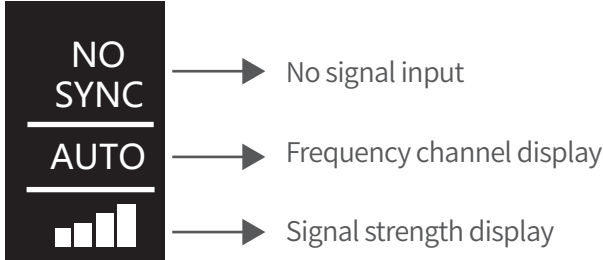
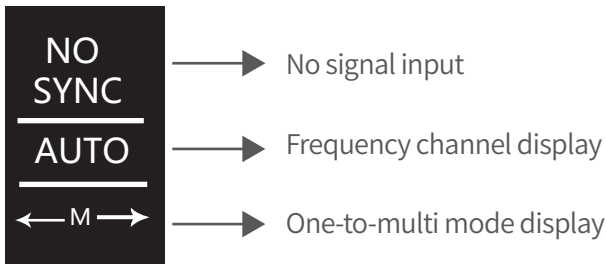

Fig. 1
Fig. 3
When no signal input, the transmitter is consistent with the receiver display content. See Fig. 1
When the transmitter has no signal input, see Fig. 3
- (3) Switch on both FLOW10K transmitter and receiver, “Power” indicator light up, OLED screen show “WAIT...” then jump to initial interface, see fig.1 or fig.3; Wait until “Link” and “Video” indicator light up, the transmitter and receiver have identifiable signal inputs and connected successfully. If the transmitter and receiver have identifiable signal inputs but fail to establish a connection, the "link" indicator will flash.
“Power” indicator light up, OLED screen show “WAIT...” then jump to initial interface, see fig.1 or fig.3; Wait until “Link” and “Video” indicator light up, the transmitter and receiver have identifiable signal inputs and connected successfully, right push the joystick to “PREF” interface, see fig.11.